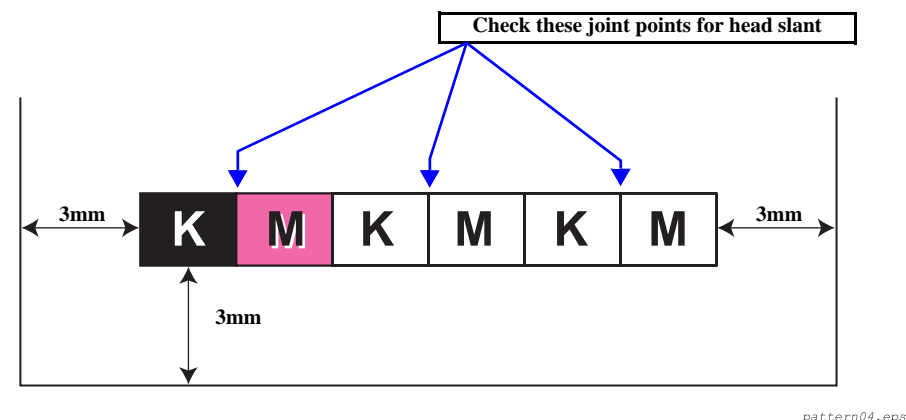

Figure 5-43. Slant Check Pattern
4. Check the pattern: (See Figure 5-43)